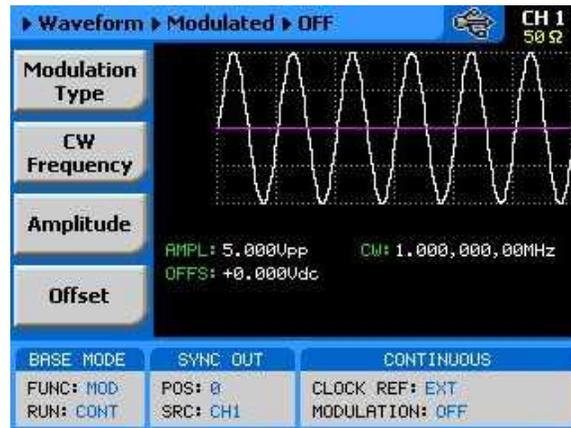

Figure 3-54, Modulation OFF Parameters
The Modulation Off is a special case of the modulation function where the output is not modulated but generates carrier waveform (CW) frequency only. CW is the sine waveform that is being modulated. When placed in Modulation Off, the sine waveform is generated from the main outputs continuously. The advantage of this mode is that sine waveforms can be generated from 100  $\mu$ Hz to 100 MHz. Modulation off operates in continuous mode only. The CW parameter does not change when you switch from one modulation function to another. Figure 3-54 shows the Modulation Off menus.